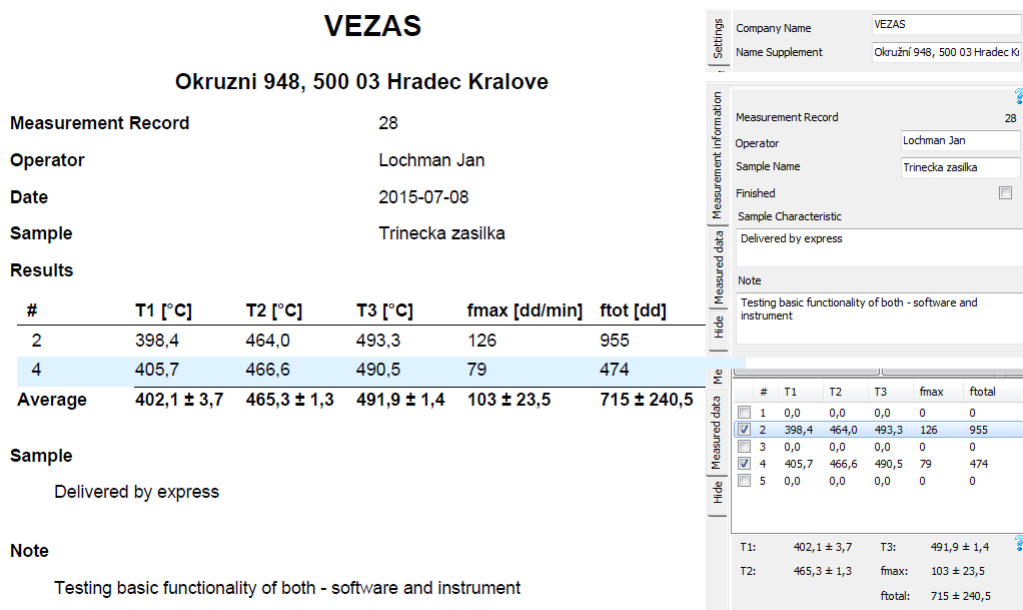

Figure 2.10: Example of the first protocol page.
*Measurement Information* bookmark contains the basic informations about the measurement and is shown in Figure 2.6. It can be filled during the measurement. Some of these informations are used to search the measurement in the *List of Measurement* bookmark described in Section 2.3.2, remaining informations are used in the head of the protocol, which is shown in Figure 2.10.
In protocol, only checked partial measurements are used. This can be seen from Figure 2.10.
The first page of the protocol has the structure shown in Figure 2.10.
Partial measurement number together with the results of characteristic values. These values are the values shown in one row in the table from Figure 2.10.